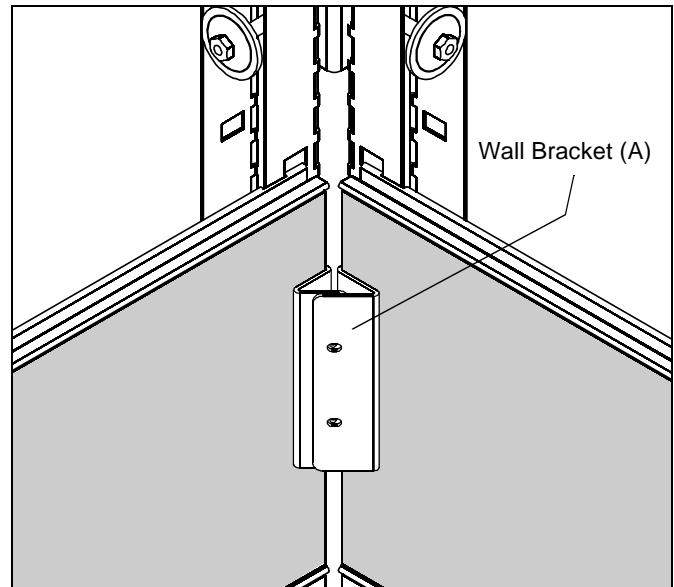

Figure 2
IMPORTANT ! : When properly installed the flat face of wall bracket (A) will be on the outside. (See Figure 2)